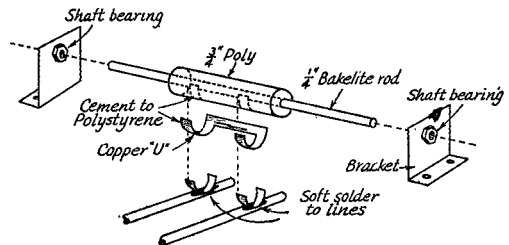

Fig. 2 — Construction and assembly details of the tuning capacitor.
- C_1 — See text and Fig. 2.
The tuning condenser is of the split-stator type with the rotor floating. The stator plates consist of two strips of copper, $\frac{3}{16}$ inch wide by 1 inch long, formed in two arcs and soldered to the tuning rods (see Fig. 2). The rotor uses a piece of $\frac{3}{4}$ -inch diameter polystyrene rod through which is drilled a $\frac{1}{4}$ -inch diameter hole for a bakelite or polystyrene shaft. If desired, the solid polystyrene can be replaced by a $\frac{3}{4}$ -inch diameter coil form by cementing a disc of polystyrene to the open end of the coil form.